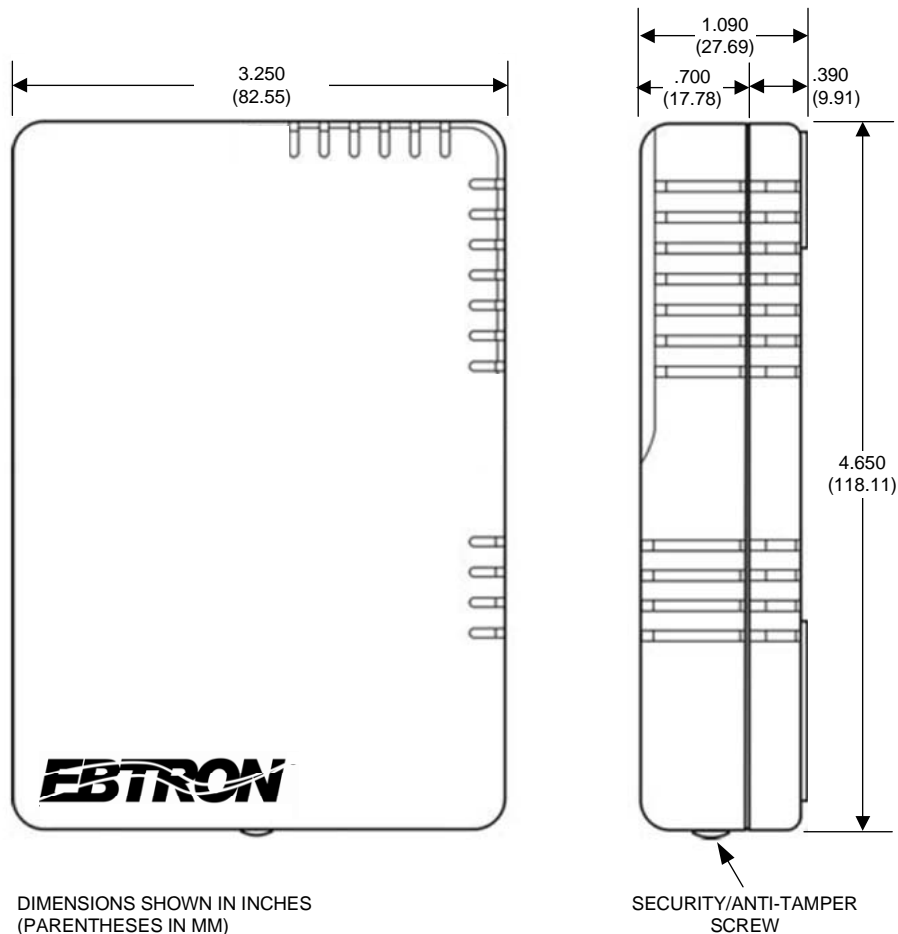
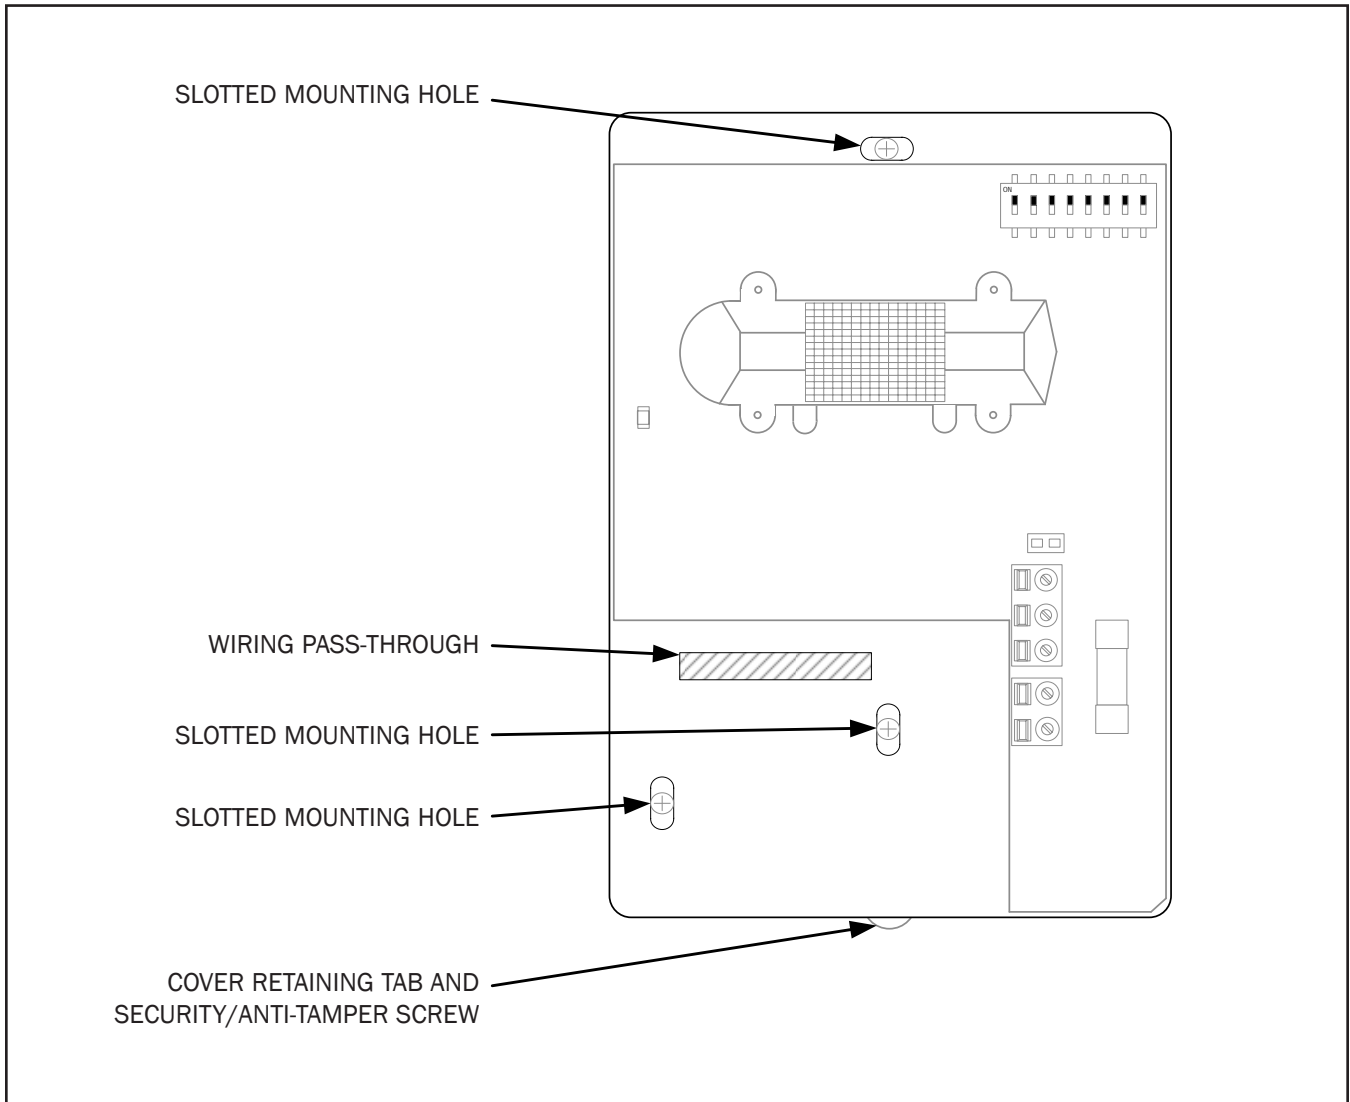

Figure 2. IAQ-300 Outline Dimensions
Figure 3. Marking Locations for Installation
Figure 2 details the mechanical outline dimensions of the IAQ-300. The location selected for the IAQ-300 is important to ensure accurate readings that are representative of the area to be monitored. Preferred mounting locations are:
Read and understand all installation instructions prior to installing the IAQ-300. The IAQ-300 is designed for surface mount installation, or for installation onto a standard (field supplied) single gang electrical junction box. Installation and wiring of the IAQ-300 must be accomplished in accordance with all local electrical and mechanical codes to ensure safety and compliance. Refer to Figure 2 for IAQ-300 outline dimensions, and Figure 3 for mounting hole locations.
5. Using the IAQ-300 base as a template, mark the location for the wiring pass-through slot and for the mounting screws as shown in Figure 3. For mounting directly to a single-gang electrical junction box, proceed to step 8.